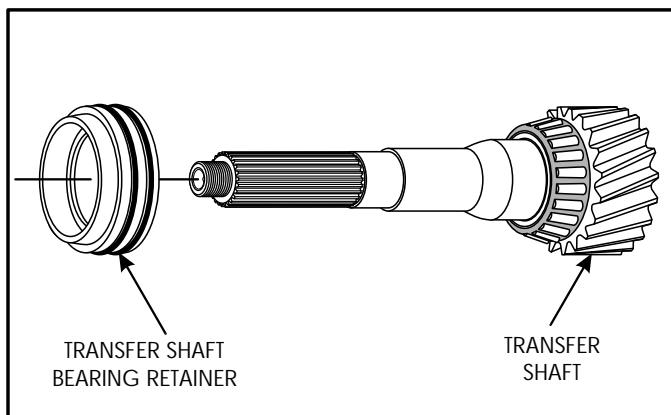

Figure 195
11. Install transfer shaft bearing retainer onto the transfer shaft, as shown in Figure 195.